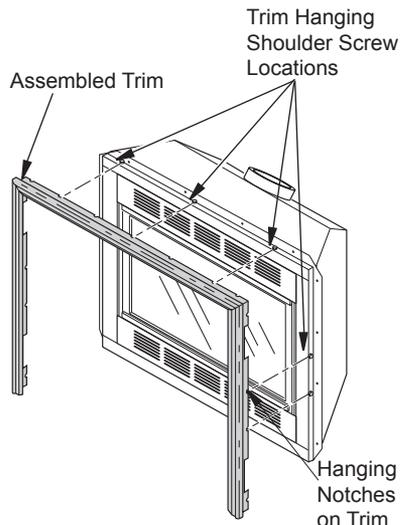

Figure 48 - Attaching Trim to Firebox
8. Place the assembled trim onto firebox cabinet. Align hanging notches on trim with trim hanging shoulder screws (see Figure 48). Tap trim firmly into place with palm of hand or rubber mallet by engaging hanging notches around shoulder screws. Start at one end of the trim and work around firebox until all notches are fully engaged.